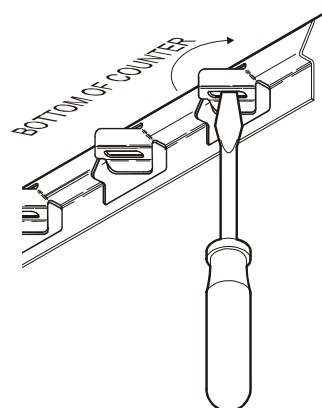

Fig. 2 Set the Wellsloks
- After installation, verify that the tabs on the Wellsloks are turned out to lock the appliance into the counter (see Fig. 2).